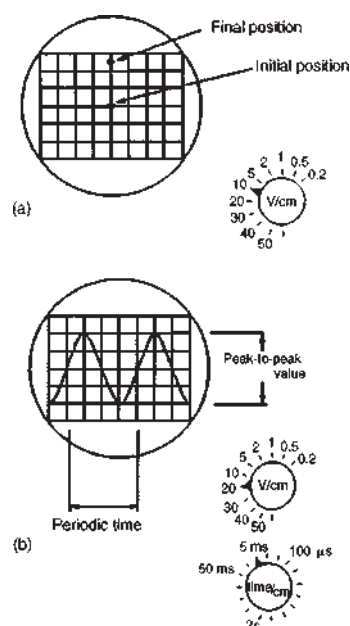

Figure 10.15
- With **direct voltage measurements**, only the Y amplifier 'volts/cm' switch on the oscilloscope is used. With no voltage applied to the Y plates the position of the spot trace on the screen is noted. When a direct voltage is applied to the Y plates the new position of the spot trace is an indication of the magnitude of the voltage. For example, in Fig. 10.15(a), with no voltage applied to the Y plates, the spot trace is in the centre of the screen (initial position) and then the spot trace moves 2.5 cm to the final position shown, on application of a d.c. voltage. With the 'volts/cm' switch on 10 volts/cm the magnitude of the direct voltage is $2.5 \text{ cm} \times 10 \text{ volts/cm}$, i.e. 25 volts.
- With **alternating voltage measurements**, let a sinusoidal waveform be displayed on an oscilloscope screen as shown in Fig. 10.15(b). If the time/cm switch is on, say, 5 ms/cm then the